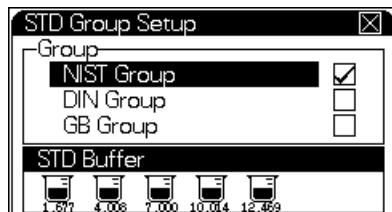

Figure 19 Group setup
- 2 In the initial state, press [View], choose **pH Last Calib**, press [Enter] to confirm, press [Setup] to enter **STD Group Setup** as shown in Figure 19. Figure 19 indicates that the current Buffer Group Setup meets the DIN standard (DIN is checked). The upper area displays the 3 buffer groups and the bottom area displays the buffers included in the selected buffer group.